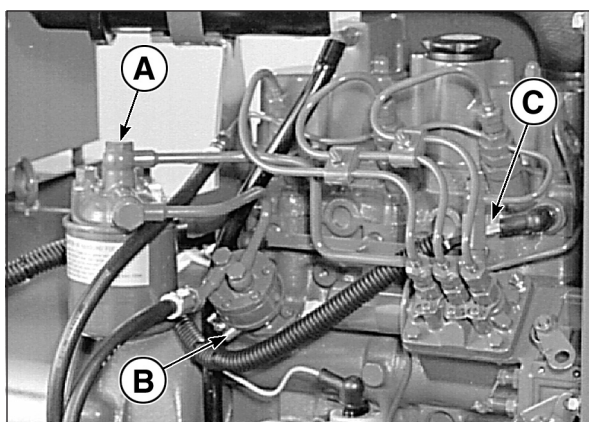

Figure 6: The Fuel System - the NL773LW4 varies slightly from this depiction
2. Loosen bleed bolt "A" (Figure 6) on top of the filter. Pump hand primer "B" on fuel lift pump until pure fuel (no bubbles) escapes from bleed bolt "A". Tighten bleed screw "A".